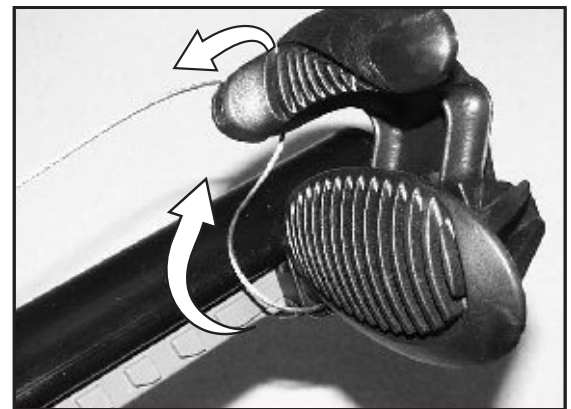

Figure 6. Threading cable through guides on Foot Pedal and through the Toe Pedal roller.
d) Wrap cable up around the front of the Foot Pedal (following the guide slot) and towards the back of the Toe Pedal. (Fig. 6)
e) The cable threads over the Toe Pedal roller from behind, through the cable slot (Fig. 6) , and back through the cable guide hole in the aft end cap.